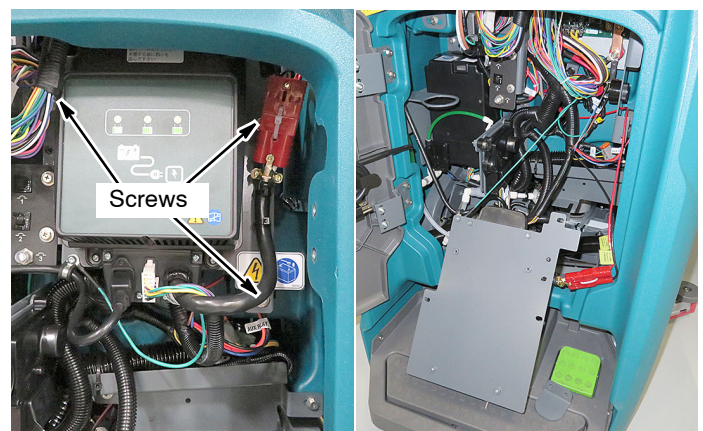

Fig. 3
5. Remove the three screws that mount the battery charger panel to the machine and carefully lower the battery charger as shown (Figure 3).
6. Disconnect the wire connectors, bus-bar and red cable from circuit board (Figure 3). Take note of connections before disconnecting.